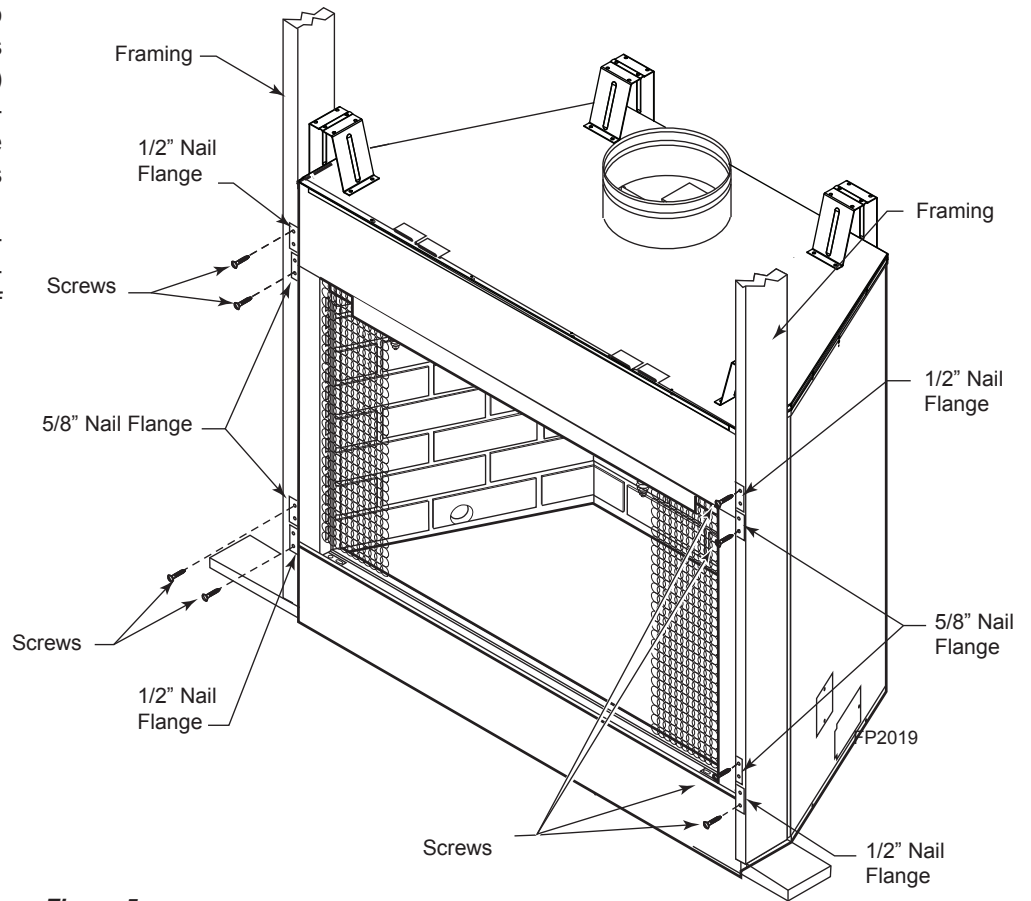

Figure 5 - Secure Fireplace to Floor and Framing Studs
The fireplace must be secured to the floor and/or to framing studs as shown in *Figure 5*. Use two (2) wood screws or masonry/concrete screws to secure fireplace to the floor. Use four (4) screws to attach fireplace to framing. The side brackets are adjustable from 1/2" to 5/8" to accommodate different thicknesses of material.